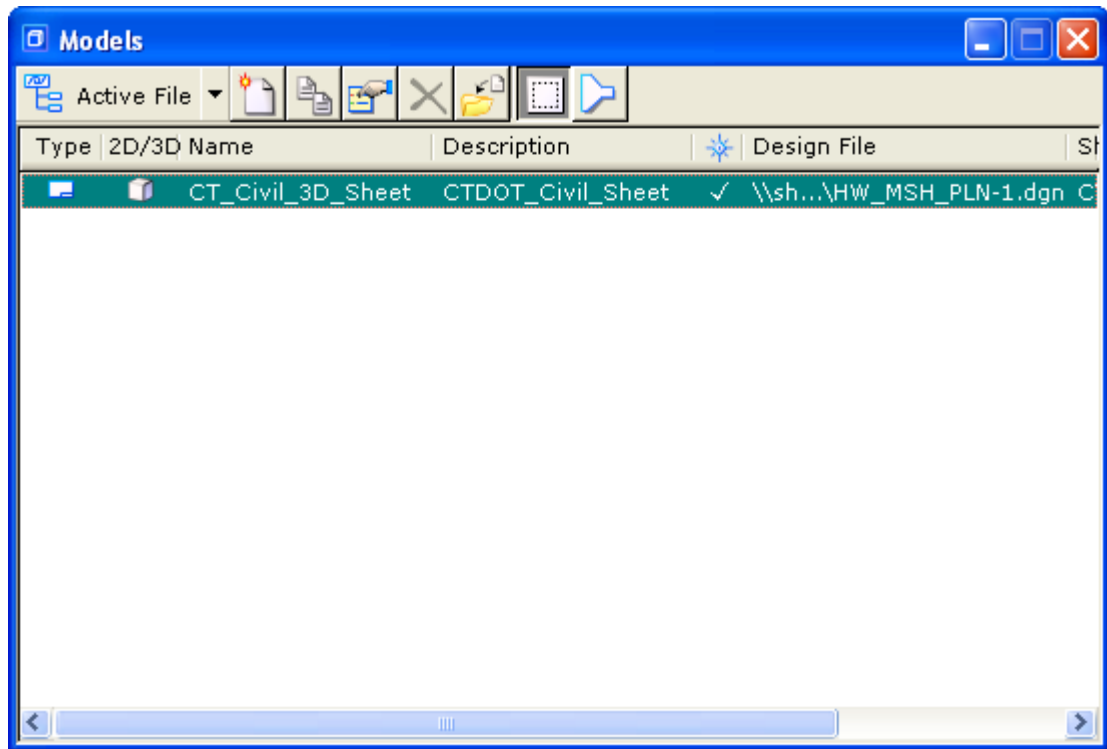

Figure 10-6 Models Dialog Box
- C. On the InRoads main menu go to **Evaluation > Create Profile**. The dialog box will appear as shown in Figure 10-6. Select the preference **Highway Profile Bdr Format**. Then select the Controls folder and change the bottom Window Clearance to 20. Click the **Preferences** button and save this change to **Highway Profile Bdr Format**. Click **Close**.